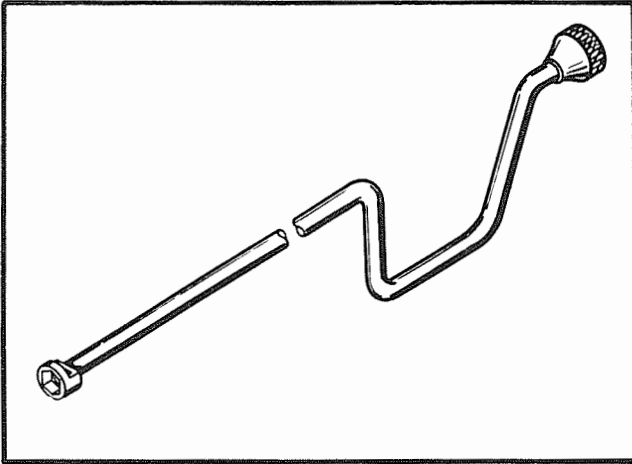

Figure 7-65. Cylinder Hold-Down Cap Screw Speed Wrench
b. Loosen all cylinder hold-down cap screws using wrench 807586. With the exception of two cap screws spaced 180 degrees apart, remove all cap screws with speed wrench 83130. See figure 7-65. If pneumatic equipment is available, pneumatic speed wrench 806996 may be used.